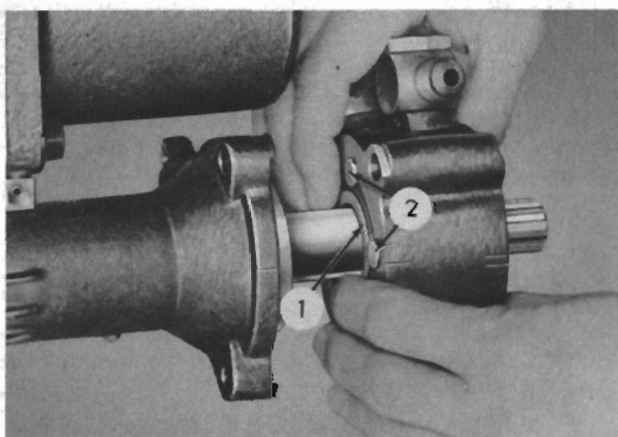

FIG. 62
Slide the control valve assembly from the shaft, (see Fig. 62), being careful not to allow the spool (1) and plungers (2) to fall out. If the control valve assembly is not to be disassembled, wrap the unit in a clean lint-free rag. Take all precautions to keep the assembly clean.